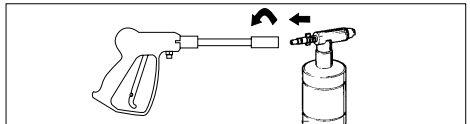

Figure 11 – Attach applicator to gun
4. Attach detergent applicator to gun. (See Figure 11.)